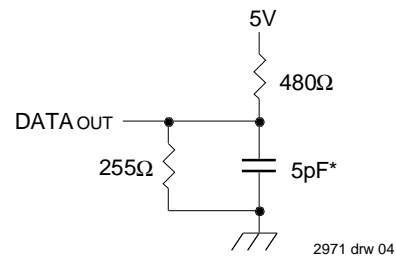

Figure 2. AC Test Load
1. This parameter is guaranteed with AC test load (Figure 2) by device characterization, but is not production tested.